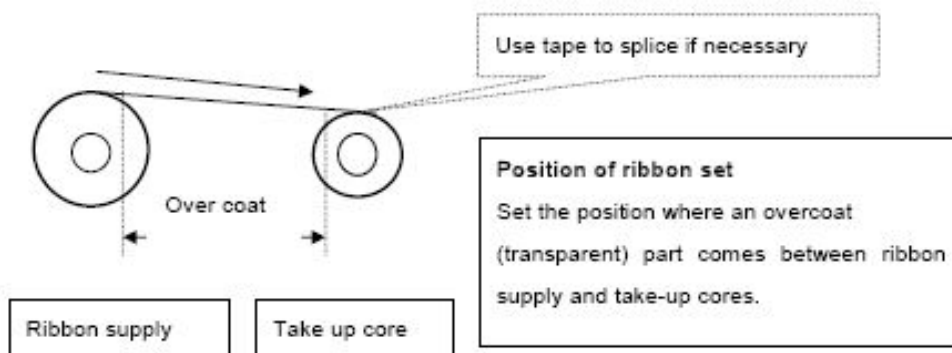

Fig.43
2. Reel the ribbon on to the take up core (use tape), turn the core to set the ribbon to its initial position. Fig.43